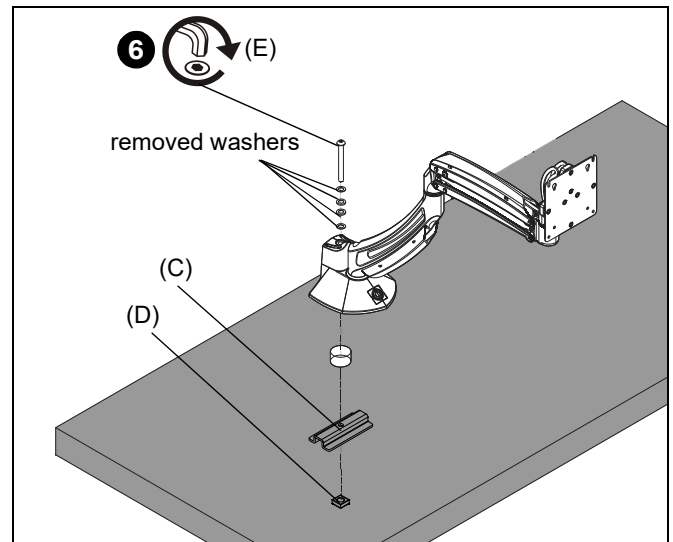

Figure 7
5. Place mount on desk over grommet hole. (See Figure 7)
6. Use 5/16-18 x 6" button head cap screw (E), removed washers, clamp bracket (C) and 5/16-18" square nut (D) to secure mount to desk. (See Figure 7)